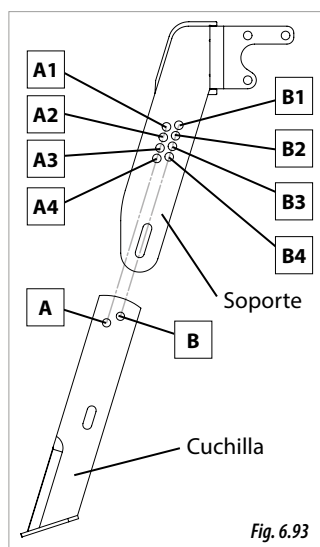
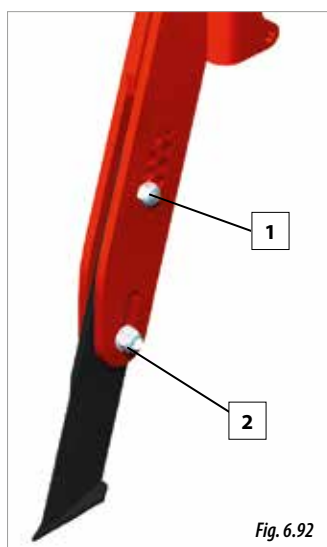

Fig. 6.93
Fig. 6.92
- 1- Remove both the nut and the position screw (1, Fig. 6.92)
- 2- Loosen both the nut and the fixing screw (2, Fig. 6.92)
- 3- Place the blade at the desired height, adjust the height until one of the holes (A or B, Fig. 6.93) fits another one.
The fixing screw (1, Fig. 6.93) needs to be placed at the same letter in both the blade and the support. Positions **A and B ARE NOT INTERCHANGEABLES**. To adjust the blade's working depth depending on the position of the position screw (1, Fig. 6.92), see next table and picture 6.93: